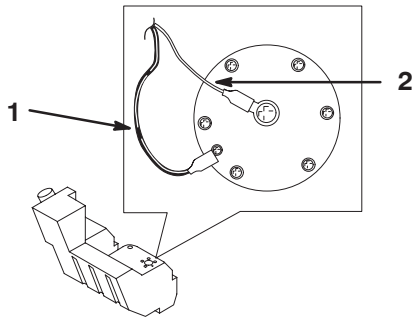

Figure 52
12. Disconnect the two wires leading to the right side of the tank (Fig. 52).
19. On the right side of the tank, connect the orange wire to the center post and the black wire to the outside post (Fig. 52).